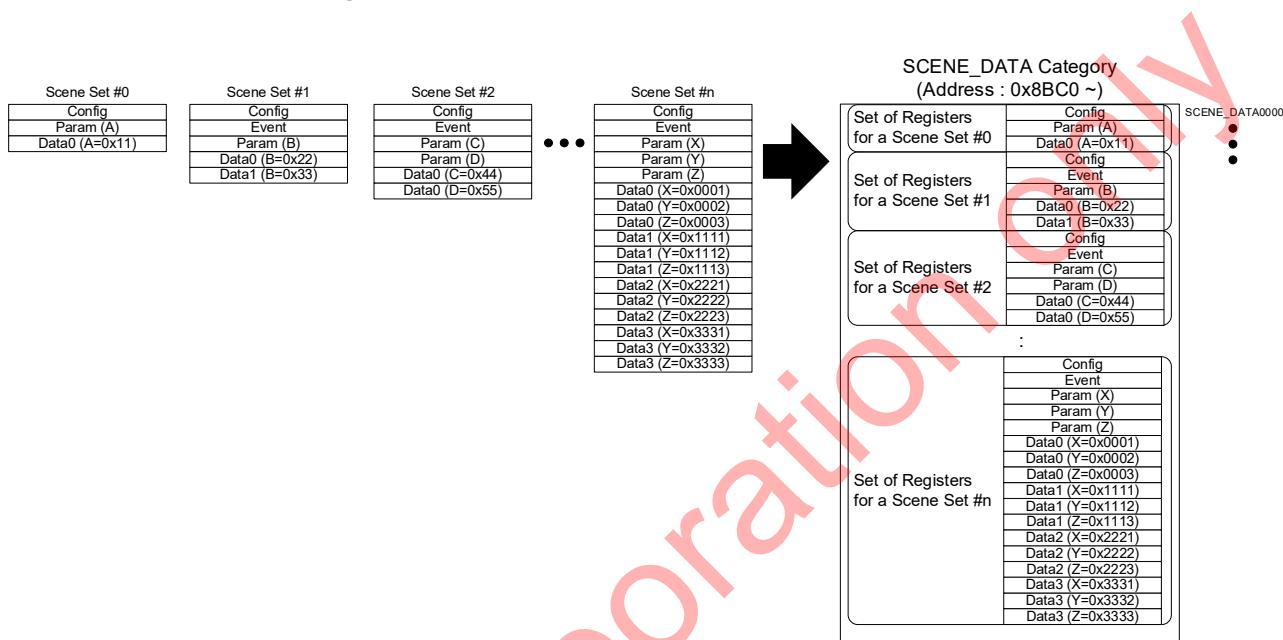

Figure 6-21 Saving Scene Lookup Tables
- When recording multiple lookup tables, consecutively set the subsequent lookup table at the end of the preceding lookup table. For details, see “Figure 6-21.”